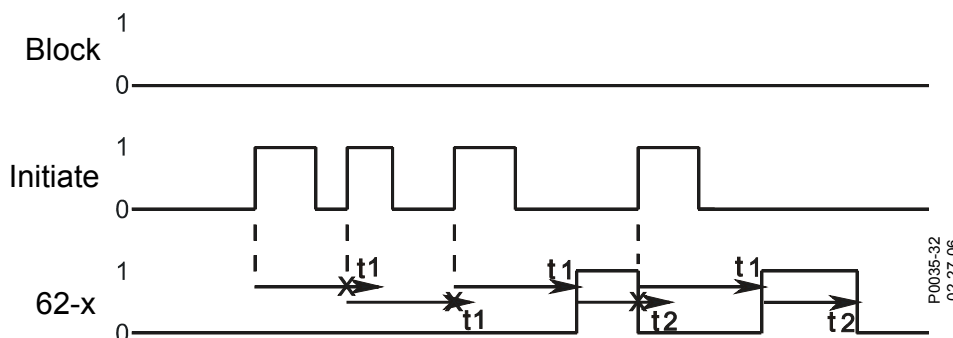

Figure 75-5. One-Shot/Retriggerable Mode
Step 7: Use the Metering Explorer in BESTCOMSPi.us to open the Reports, Sequence of Events screen. Verify that approximately 15 seconds after the second 43-1 OFF to ON initiate signal, the 62-1 timer output went true. Verify that the timer output went false when the third OFF to ON initiate signal forced the 62-1 time delay 1 to restart. Figure 75-5 illustrates the timing relationship of the 43-1 switch and 62-1 timer.